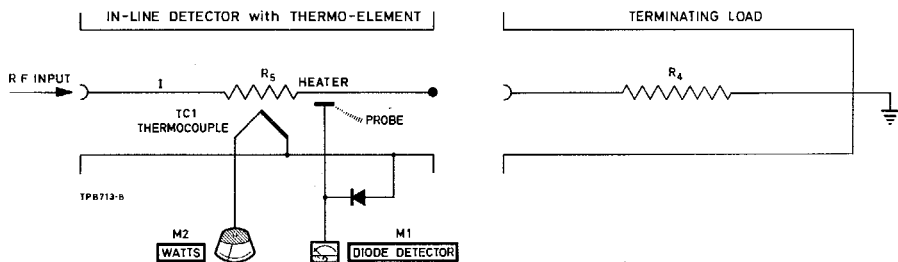

Fig. 3.1 Functional diagram of r.f. power meter
R. F. Power Meter TF 2502 consists of an in-line thermocouple detector, a diode detector and a terminating load as shown in Fig. 3.1.